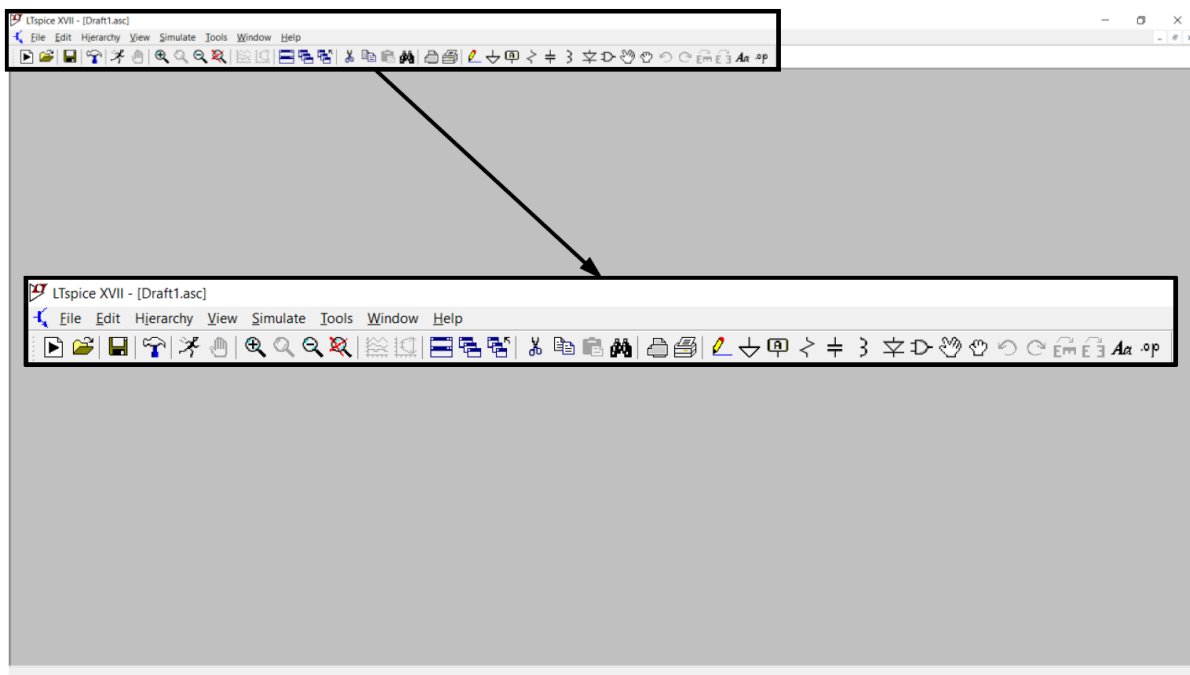

Fig. 2. Default schematic window with expanded menu and toolbar insert.
3. Left click on the menu bar File > New Schematic. Fig. 2 shows the default schematic window for MS Windows users. The menu and toolbar change to the one shown in the insert. There are more menu items.